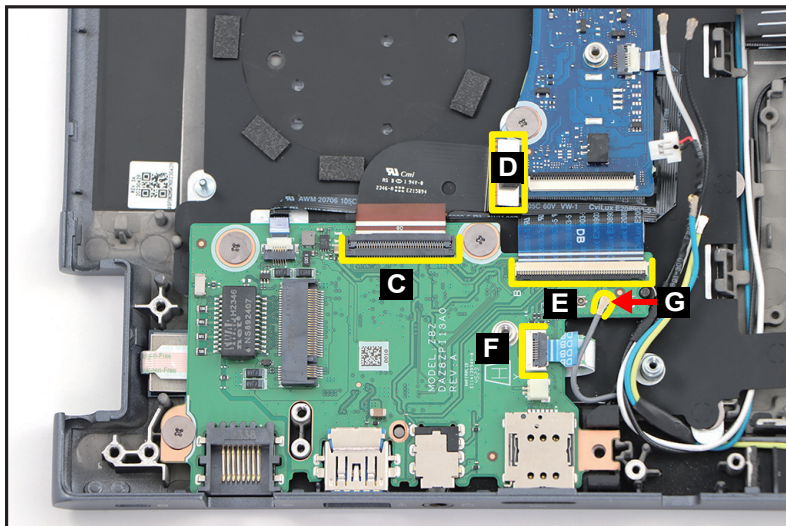

Figure 1-41. LTE Board Removal
3. Disconnect one end of the LTE board FPC from the LTE board connector (C) (Figure 1-41).
4. Disconnect other end of the LTE board FPC from the mainboard connector (D) (Figure 1-41).
5. Disconnect the LTE board FFC from the LTE board connector (E) (Figure 1-41).
6. Disconnect the fingerprint FFC from the LTE board connector (F) (Figure 1-41).
7. Disconnect the LTE antenna cable from the LTE board connector (G) (Figure 1-41).